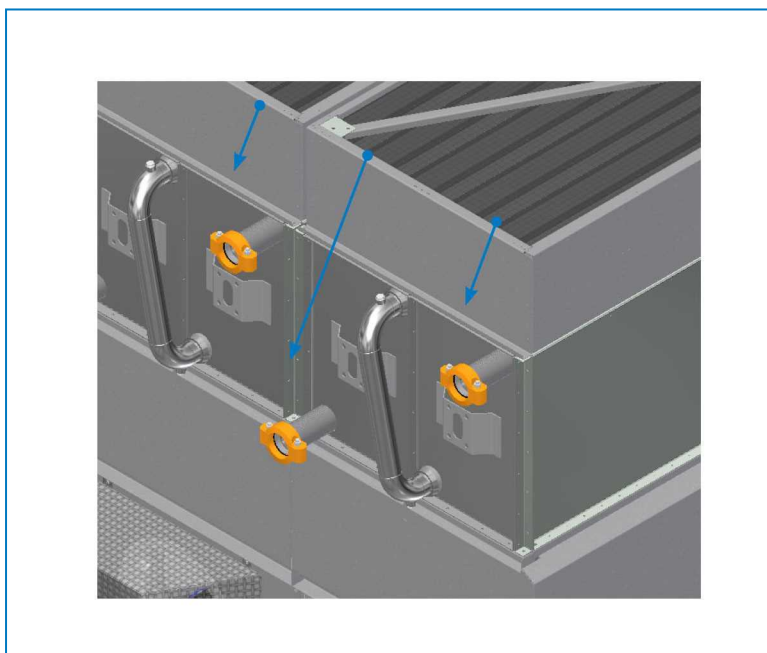

Fig. 20 Place flexible coupling (series flow shown)
1. Place the ND80 flexible coupling (Victaulic BAC #202174M6) onto the hCore® Heat Transfer Technology system. See figure 20.